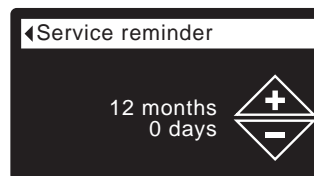

FIG. 86
7. Press the SELECT (O) button to display the Service reminder screen (See Figure 86).